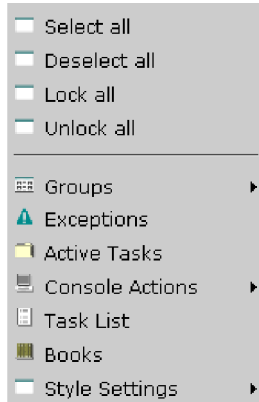

Figure 26. Work area menu
2. Right-click on a spot on the **Channels Work Area** without an icon. This displays the menu for the *Work* area (see Figure 26 on page 39).
1. Right-click on a spot on the **Channels Work Area** without an icon. This displays the menu for the *Work area* (see Figure 26).